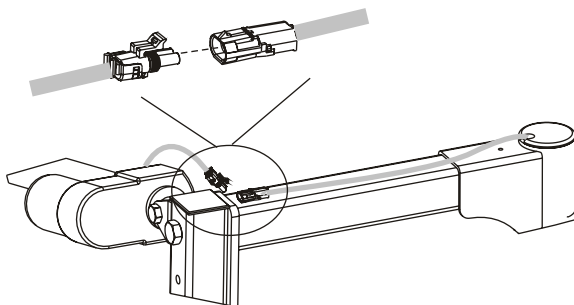

Figure 22-3
3. Plug in actuator at this time. *[Figure 22-3]*